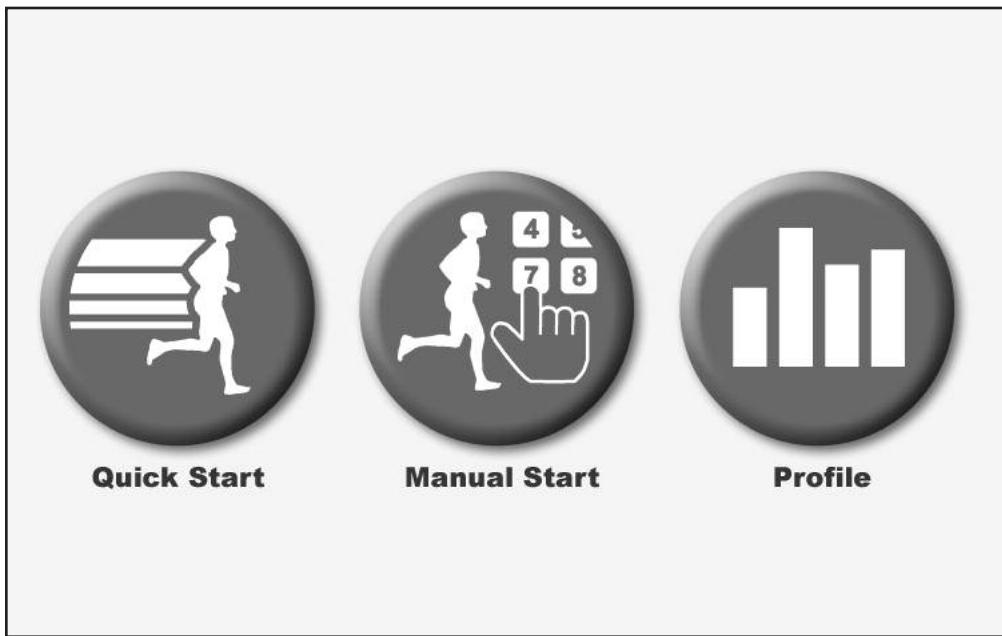

Figure 4.1. The Quick Start feature allows the user to begin the exercise session with minimal input.
(See Figure 4.1.)
2. Touch <Quick Start>. The Quick Start Exercise Track should now be displayed. (See Figure 4.1)